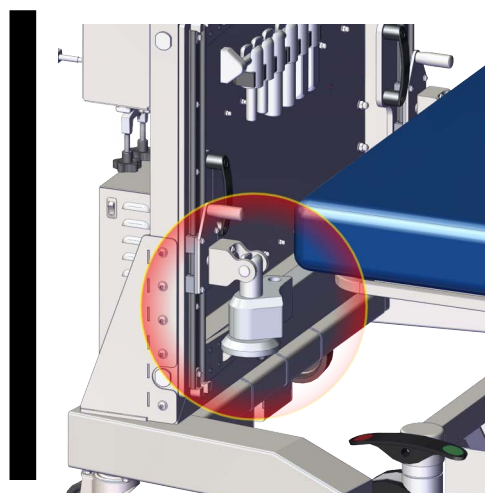

Fig 2.6 Insert Bed Pins into Holes in Bed
- Push CCTS to foot of bed and insert pins into bed frame locating holes (Fig 2.6), one at a time, moving interface mechanisms in/out, up/down as necessary.